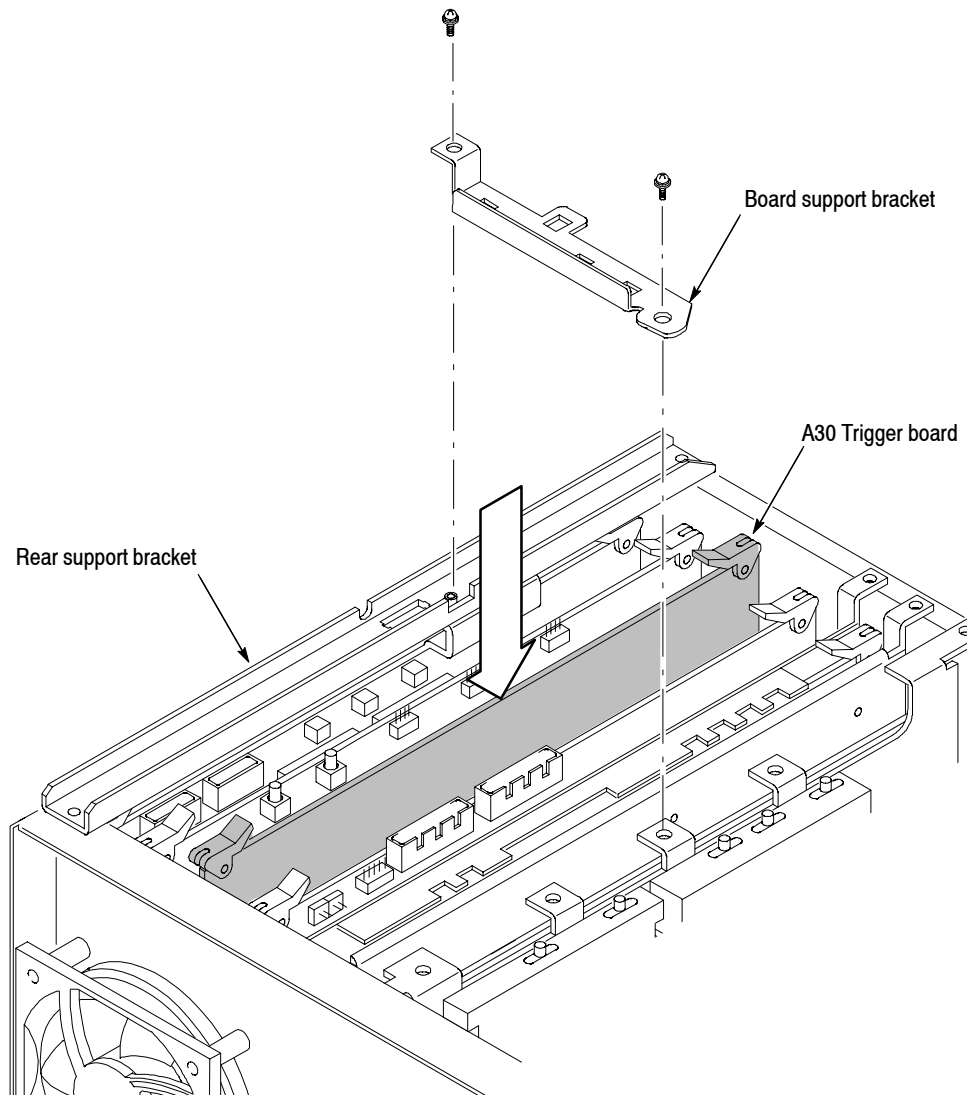

Figure 4: Installing the A30 trigger board
2. *Remove the board support bracket:* (See Figure 4 below.)